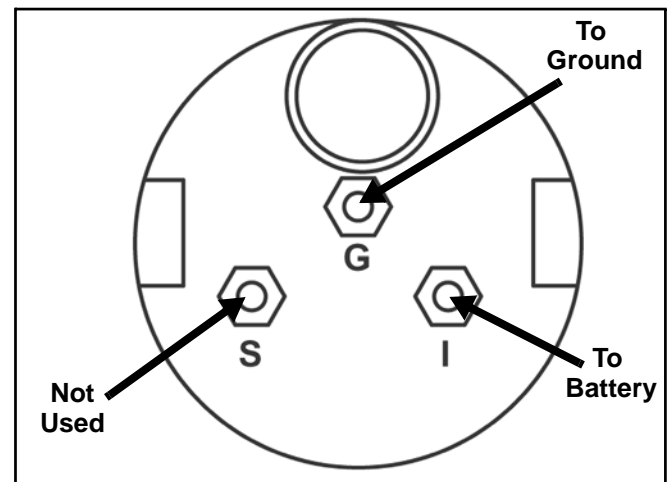

Figure 6
2. Verify the conditions in the table below. If they are not met, replace the voltmeter as it is not serviceable (Figure 6).